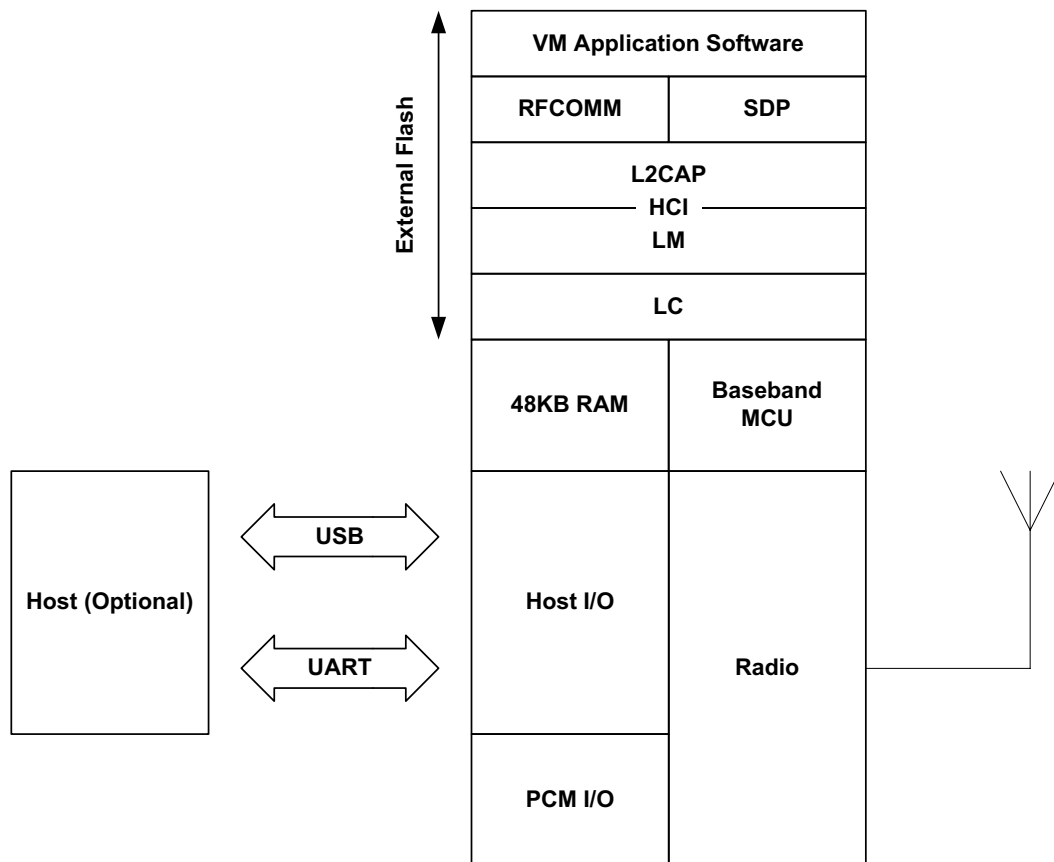

Figure 9.3: Virtual Machine
In Figure 9.3, this version of the stack firmware shown requires no host processor (but it can use a host processor for debugging, etc.). All software layers, including application software, run on the internal RISC processor in a protected user software execution environment known as a Virtual Machine (VM).